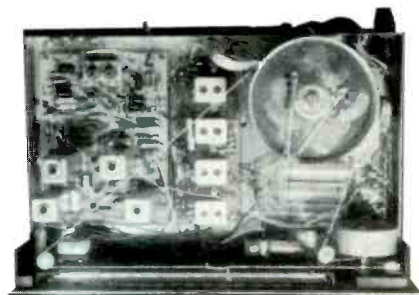

Fig. 2—Open-chassis view of the EICO Model 3200 stereo tuner, showing layout of three major modules.
A photo of the completed tuner, housed in its metal "cage" (included in the price of the kit or wired unit) is shown in Fig. 1, while the "insides" are displayed in Fig. 2. From this latter photo, you can observe the three basic components which make up the tuner: starting from the left, the multiplex stereo decoder board, the FM-i.f. strip and the r.f. front end, obscured by the dial-drive drum.
Fig. 2—The rear panel layout of EICO's Model 3150 stereo amplifier is shown in (A). Figures 2B and C show top and bottom views of the chassis, illustrating how duplicate printed-circuit boards are mounted for each channel. Twenty-six silicon transistors, six silicon rectifiers and twelve biasing and protective-circuit diodes are used in this design.